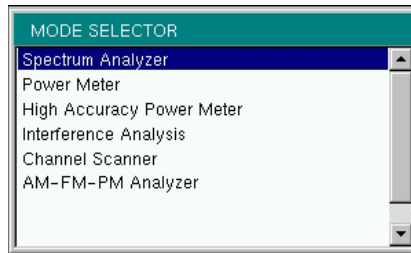
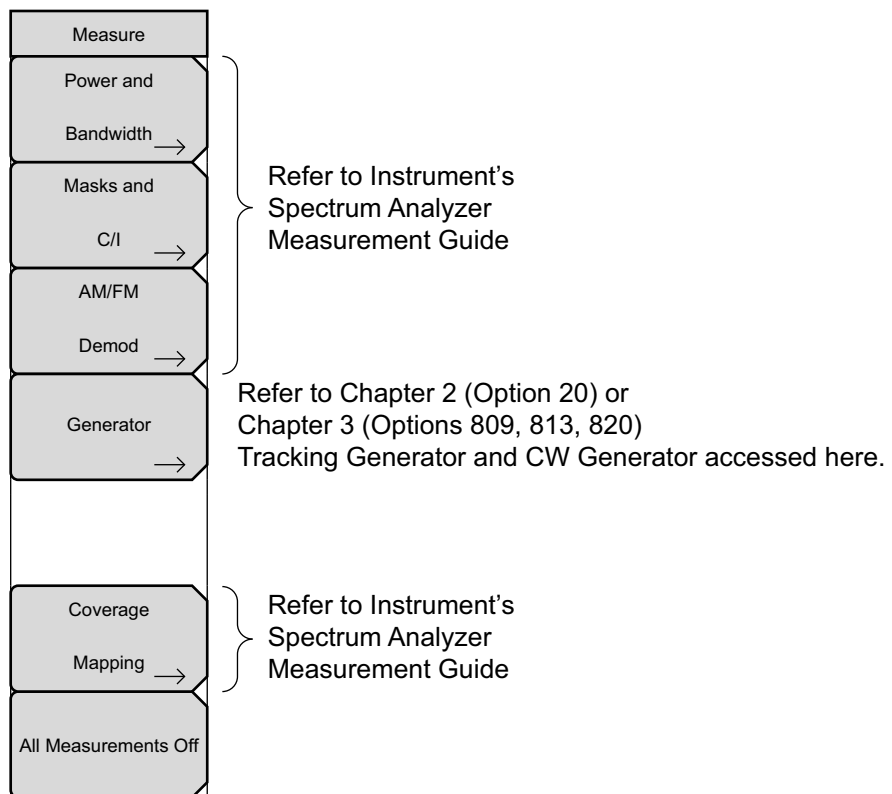

Figure 1-2. Measurement Mode List (example)
Figure 1-3. Tracking and CW Generator Options
You can also press the **Shift** key then the **Mode (9)** key, select Spectrum Analyzer (Figure 1-2) from the list using the rotary knob or the **Arrow** key, and press **Enter**. In Spectrum Analyzer mode, press the **Shift** then **Measure (4)** keys and then press Generator (Figure 1-3 on page 1-3).